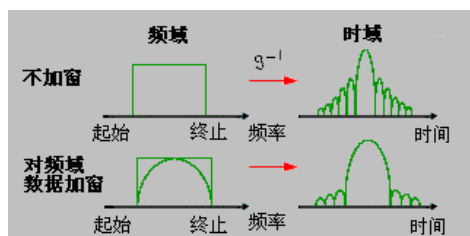

Figure 2.7 Using window filter to suppress side lobes
- 2) Impact response sidelobe: This is caused by the mutation at the termination frequency. The sidelobe adjacent to the high level response will hide the low level response signal, limiting the dynamic range of time domain measurement. The sidelobe can be suppressed by window filtering, as shown in Figure 2.7: